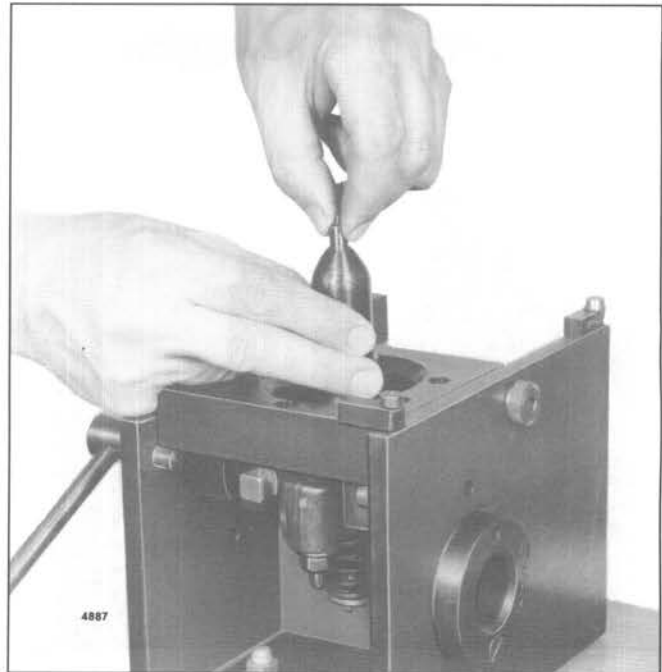

Fig. 31 - Tightening Injector Nut by Hand
20. Lubricate the threads in the injector nut and carefully thread the nut on the injector body by hand. Rotate the spray tip between your thumb and first finger while threading the nut on the injector body (Fig. 31).